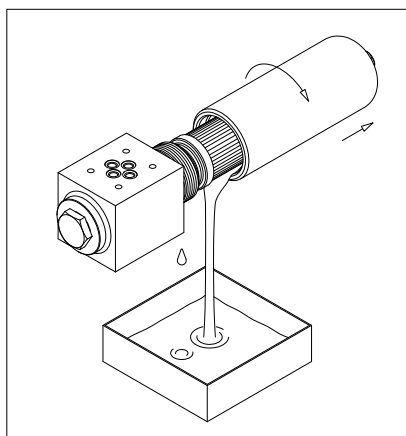

fig. 1
- (Fig. 1) Place a vessel to collect the operating fluid under the filter, unscrew the filter bowl and pull it out enough to drain the fluid, paying attention to dripping from the head and the filter element